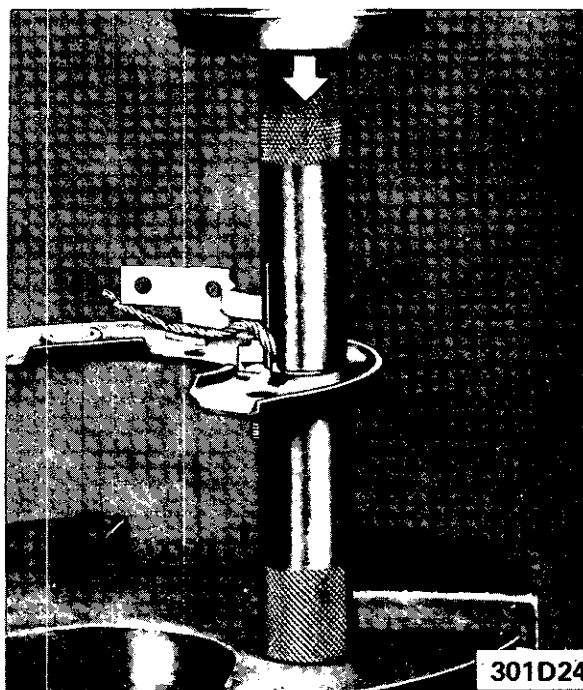

Figure 1D-24 Installing Diode
2. Using Tool J-23526, press diode from support. See Figure 1D-23.
1. Press new diode into diode support. See Figure 1D-24.
1. Using Tool J-23526, press diode into support. See Figure 1D-25. Insert negative diode pigtail lead through tool pilot.